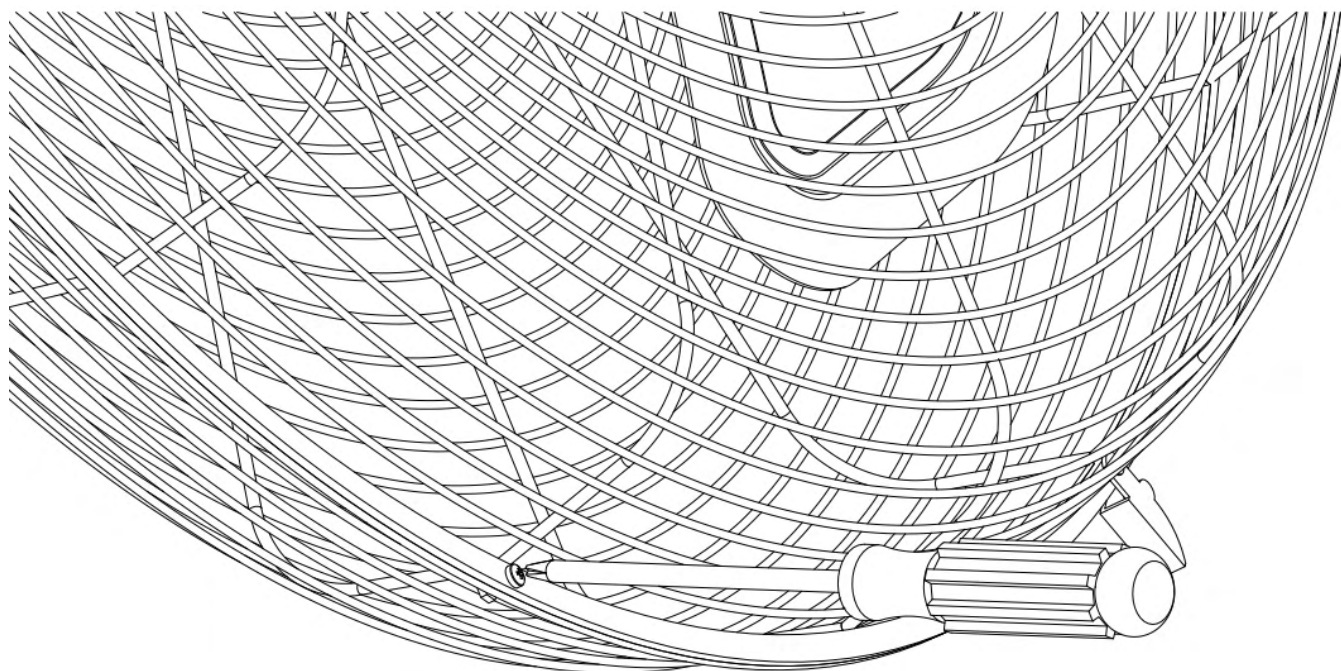

Fig. 6
6. Align the mounting hole on the edge of front safety grill to the mounting screw hole on the edge of rear safety grill, using the screw with nuts in step 5, to secure the front safety grill to the rear safety grill. (Fig.6)